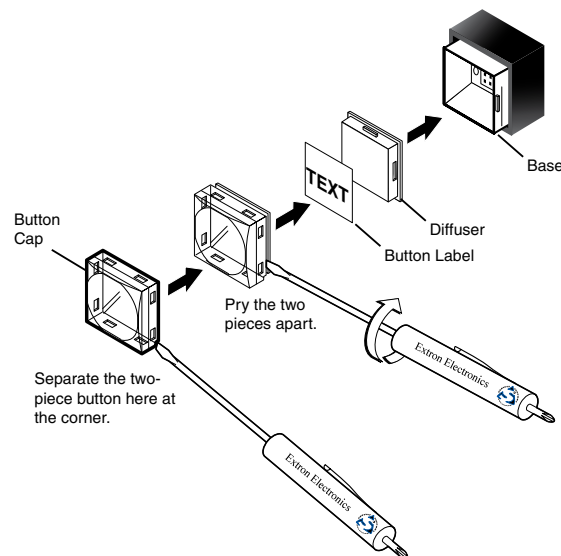

Figure 71. Illuminated Button Label Replacement
1. Remove the button from the matrix switcher; use a small, flat bladed screwdriver such as an Extron Tweaker to gently pry a button out from the front panel (see figure 71).